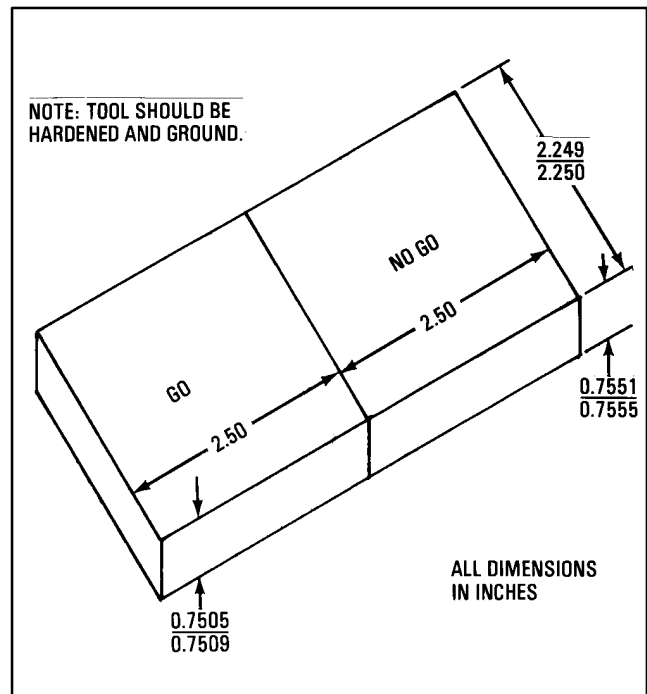

FIG. 4. BRUSHHOLDER CARBONWAY GAGE. E-11283A.
2. Check progress frequently by means of a "Go/No-Go" gage made to the dimensions shown in Fig. 4.